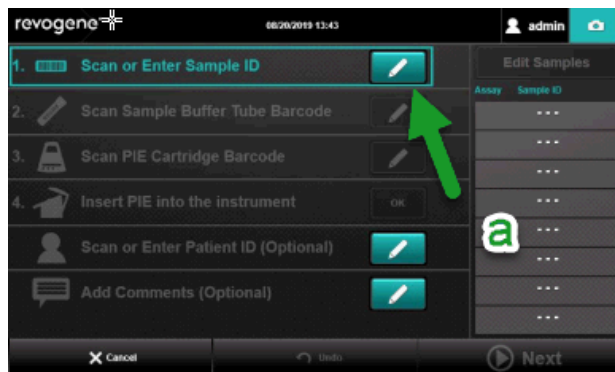

Figure 16. Sample ID Button
- a. Enter a sample identification (Ex: 1 for first PIE, 2 for second etc.) manually. Manual entry can be done by tapping the pencil icon of the <Scan or Enter Sample ID> line.(Figure 16)
- e. Repeat steps "a" to "d" for the three (3) other PIEs.
5. Because less than eight (8) PIEs are being tested, load MOCK PIEs in the carousel remaining positions. No scan is required when inserting MOCK PIEs into the Revogene. Check the box to confirm that they were inserted.